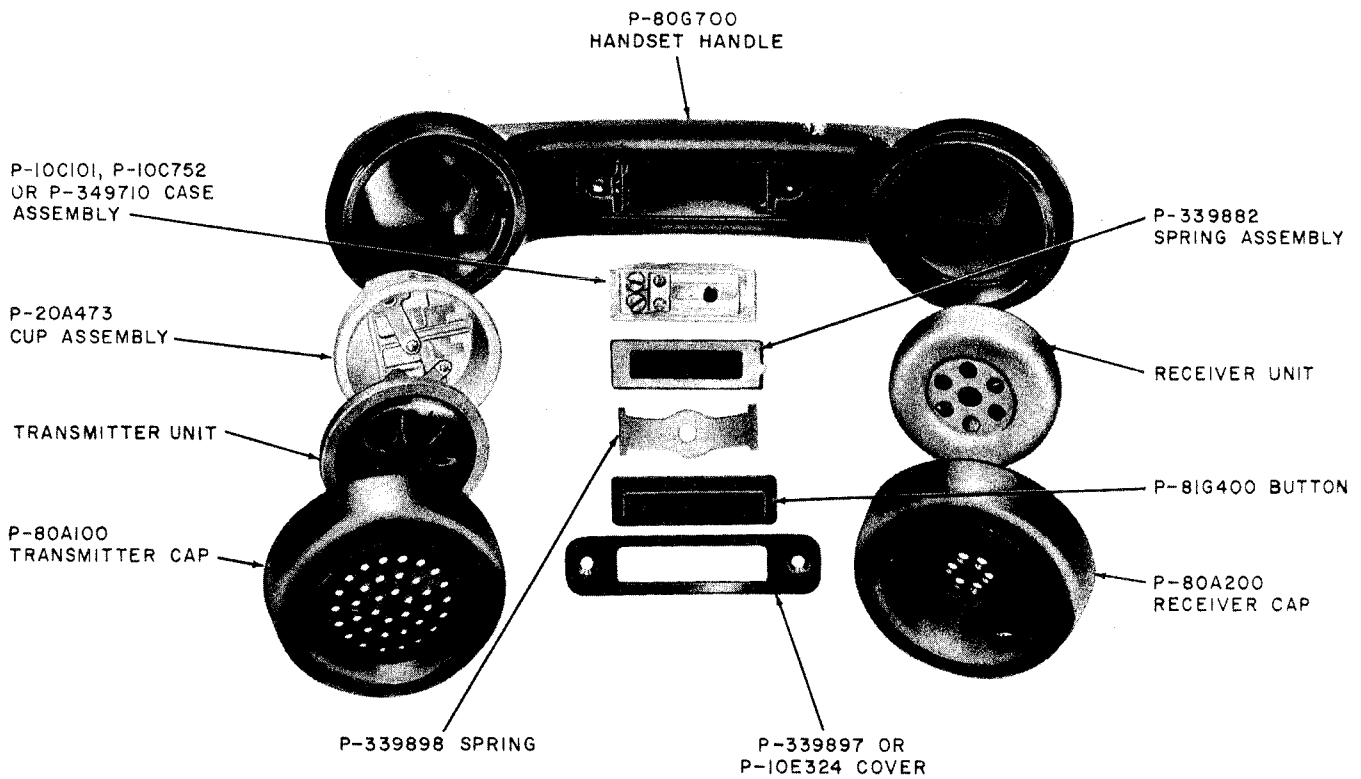

Fig. 6—G5-Type Handset Assembly
**2.26** The G5-type handsets (Fig. 6) are equipped with a pushbar switch located in the handle. The pushbar switch is wired for push-to-talk, push-to-listen, or to control an external function.